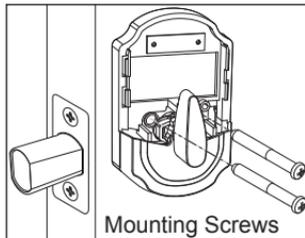

Fig. 11
Step 6. Assemble the inside section on door by aligning mounting holes on the latch and inside section. Ensure the latch pin is HORIZONTAL when inserting it into inside section. Then secure the inside section on the door with mounting screws. (Fig. 11)